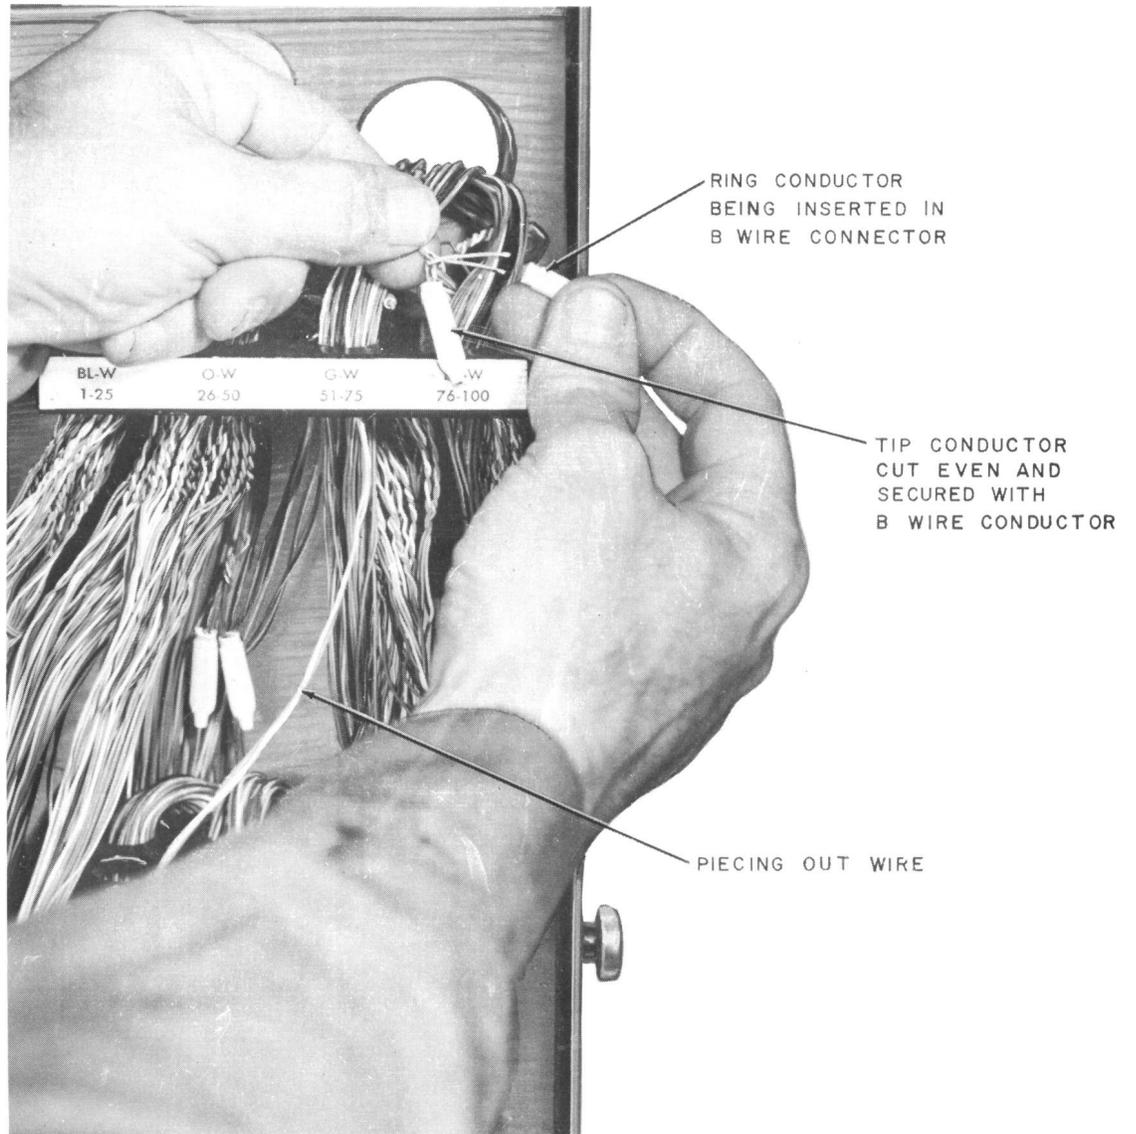

Fig. 12—Piecing-Out *IN* Cable Pair
6.02 The procedures for piecing-out the **IN** cable pair (Fig. 12) are identical to the procedures outlined in 6.01, except cross-connecting wire may be used as the piecing-out wire if no wire having the same-colored insulation or gauge as the **IN** cable pair is available. **Never use an odd-colored wire.**